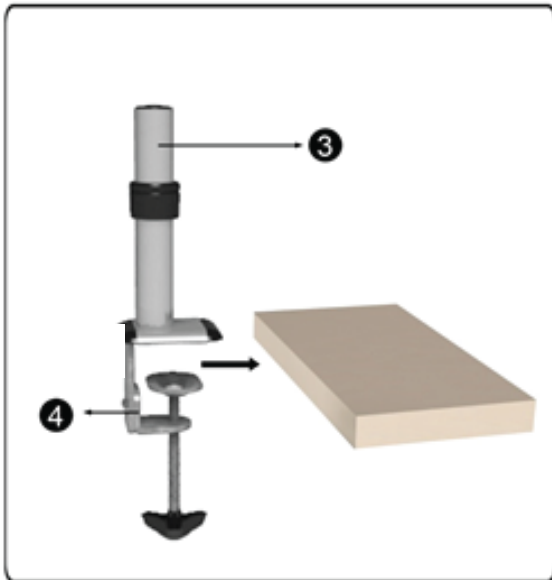
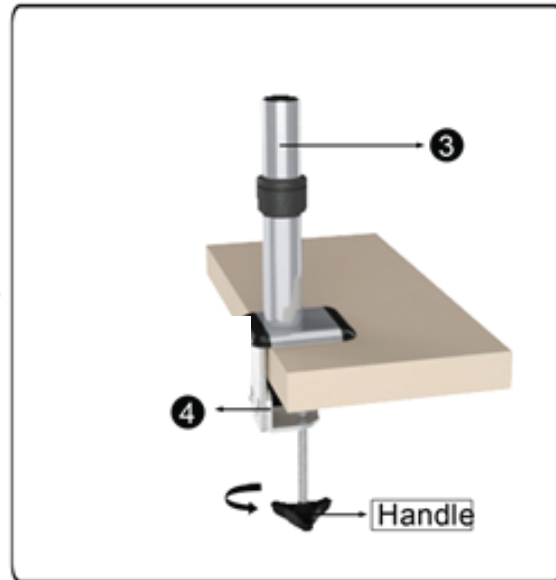

Figure 1
Figure 2
1. Place the Pole Assembly (3) over the open edge of the desk in the desired location. (See Figure 1). Tighten the Clamp by turning the handle until the Pole Assembly is securely in place. (See Figure 2)